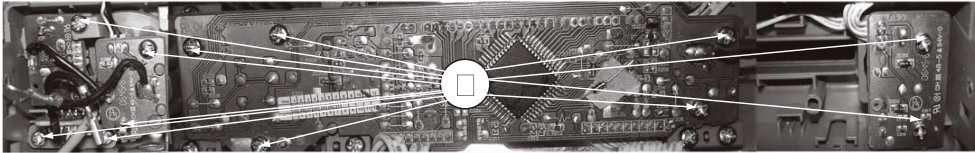

Figure 6
- 1) Loosen 12 screws "C" at the top of Control board as shown in figure 6